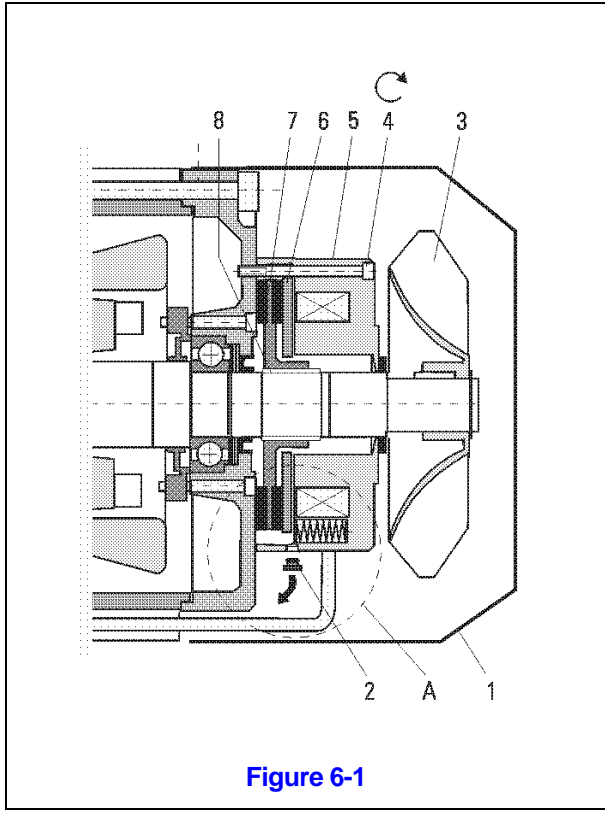

Figure 6-1
The RHN Hoist is equipped with a Counter, located on the face of the SLE Load Monitor Device. This counter registers and displays the total operating hours of the hoist (See Figure 6-1).
- 1) Remove fan cover (1). See Figure 6-1.
- 2) Remove plug (2). See Figure 6-1.
6.3.4 Brake Rotor Replacement - See Figure 6-1.